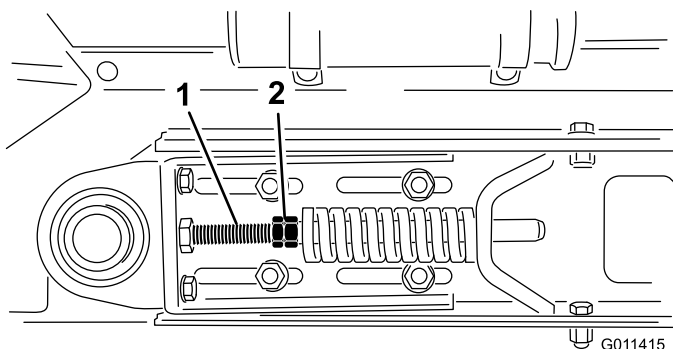

Figure 31
3. Loosen jam nuts and nuts on tension rod to release spring tension (Figure 31).